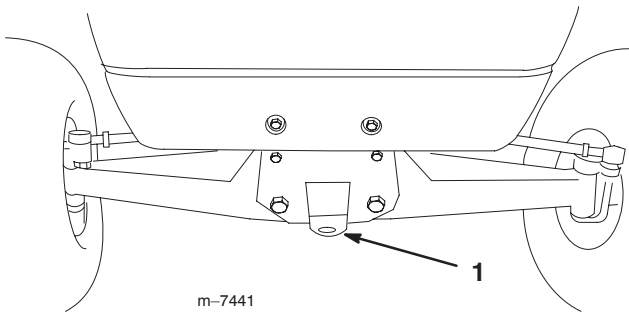

Figure 16
- Affix a tow line to the tongue on the front frame member (Fig. 16).